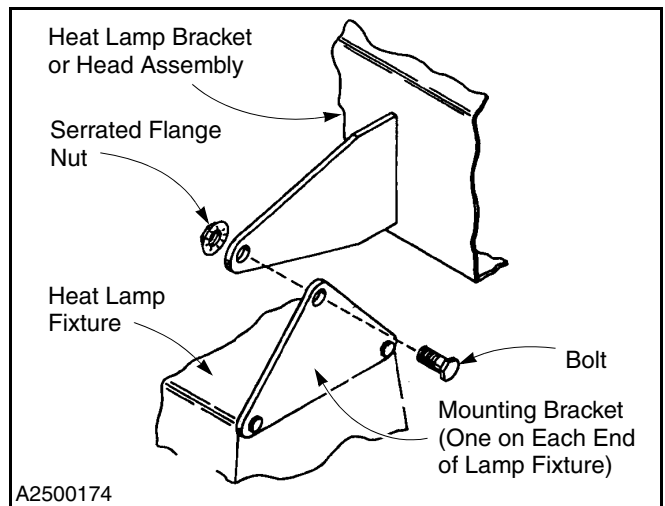

Figure 33
2. To redirect a heat lamp, first loosen the nuts that lock the lamp fixture in place. (See Figure 33.)